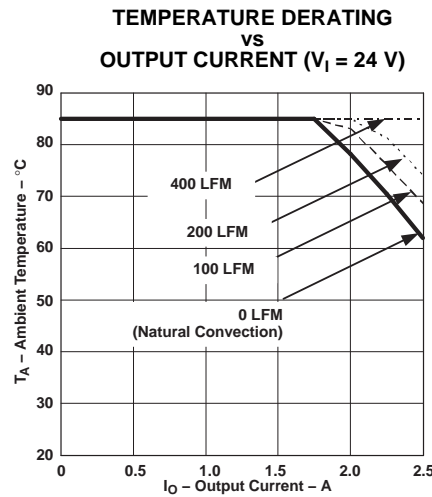

Figure 19.
- (8) The temperature derating curves represent operating conditions at which internal components are at or below manufacturer's maximum rated operating temperature. Derating limits apply to modules soldered directly to a 100–mm x 100–mm, double-sided PCB with 2 oz. copper. Applies to Figure 19.